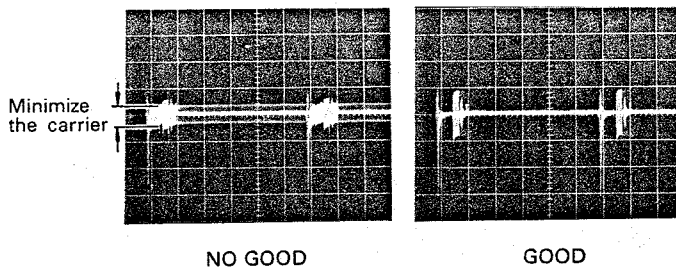

Fig. 6-4-44
- Adjust B- Y_L CARRIER BALANCE VR319 and R- Y_L CARRIER BALANCE VR320 alternately until the 4.43MHz carrier component during blanking period is reduced to a minimum. (Fig. 6-4-44)